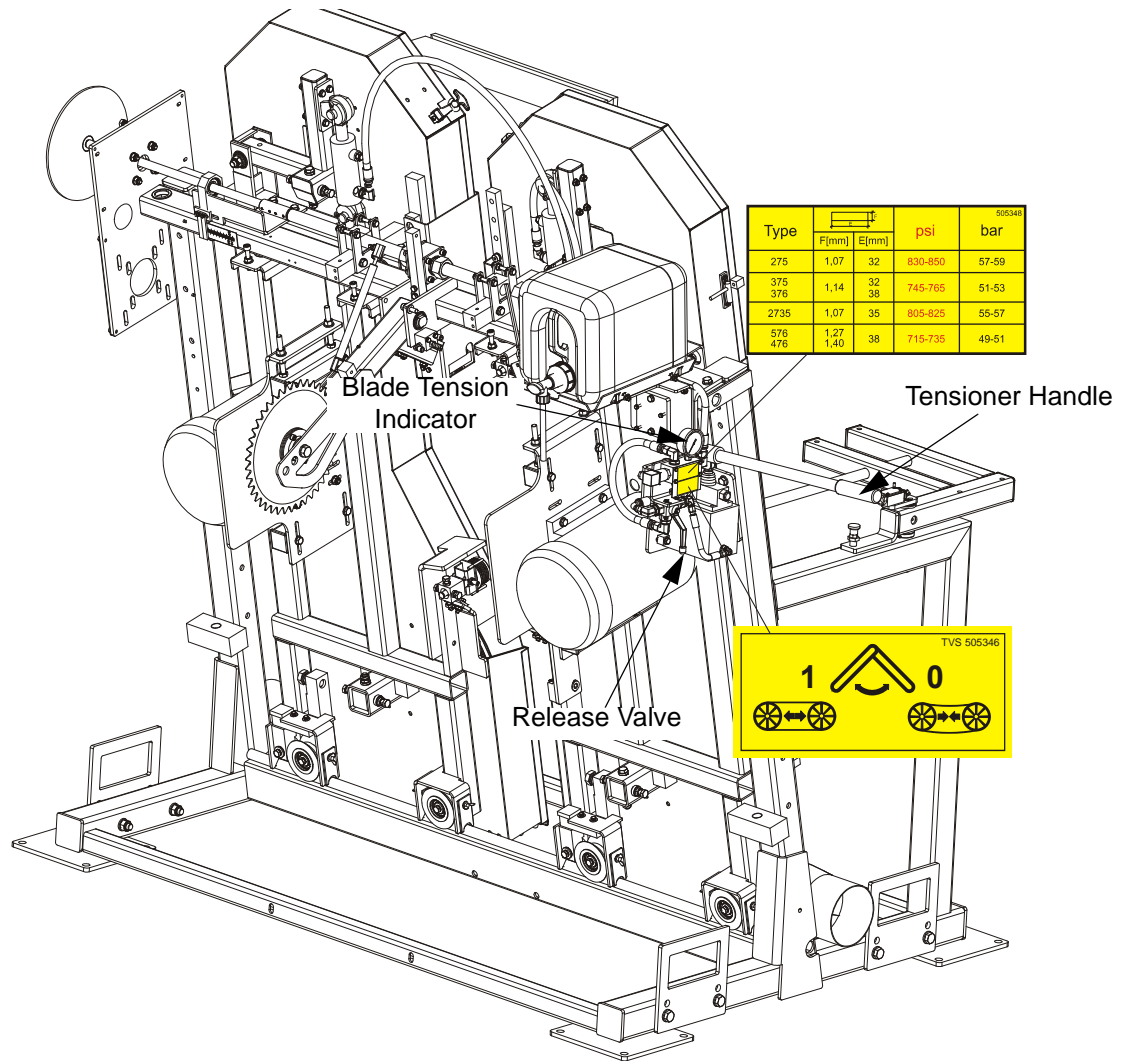

FIG. 2-3
See Figure 2-3. Place the provided handle in the blade tensioner socket and secure with a screw. Set the tensioner valve to position "1". Move the tensioner handle up and down to tension the blade. Depends on the installed blade type, tension the blade to the value shown on the decal located below blade tension valve. Values "F" and "E" are: blade thickness and blade width. Check the blade tension occasionally when adjusting the cant control or while cutting and adjust if necessary. As the blade and belts heat up and stretch, the blade tension will change. Also, ambient temperature
5. Use the cant adjustment bolt, shown in **Figure 2-3**, to adjust where the blade travels on the blade wheels.